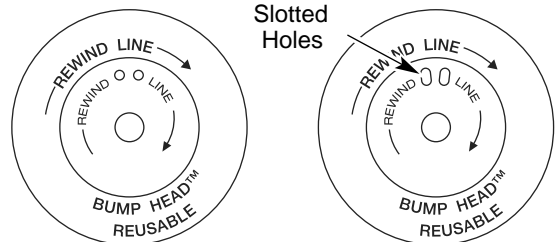

Fig. 18
**NOTE:** SplitLinea can only be used with the inner reel with the slotted holes. Single line can be used on either type of inner reel. Use Figure 18 to identify the inner reel you have.